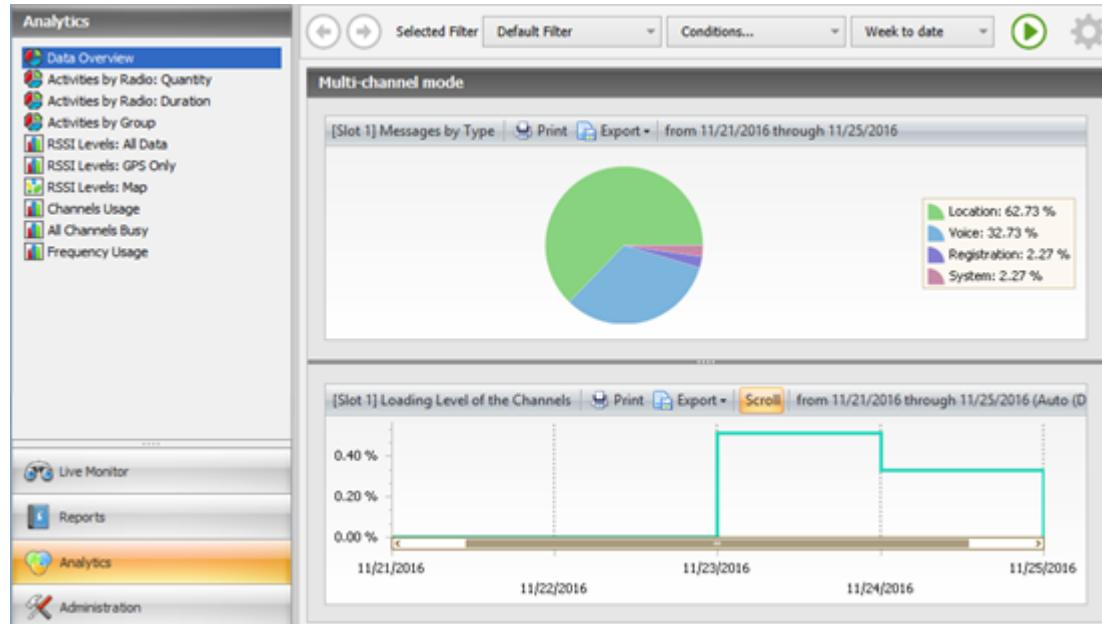

Figure 62: Analytics tab
- Multi-channel mode (Figure 62): Charts are generated for multiple selected systems or for a single system other than IP Site Connect.